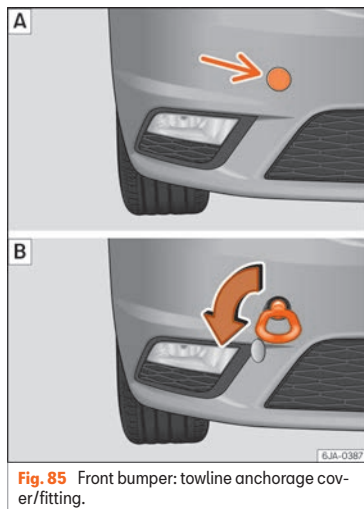

Fig. 85 Front bumper: towline anchorage cover/fitting.
- Press on the left of the cover as indicated by the arrow »» » Fig. 85 A.
- Screw in the towline anchorage anti-clockwise by hand as far as it will go »» Fig. 85 [B].